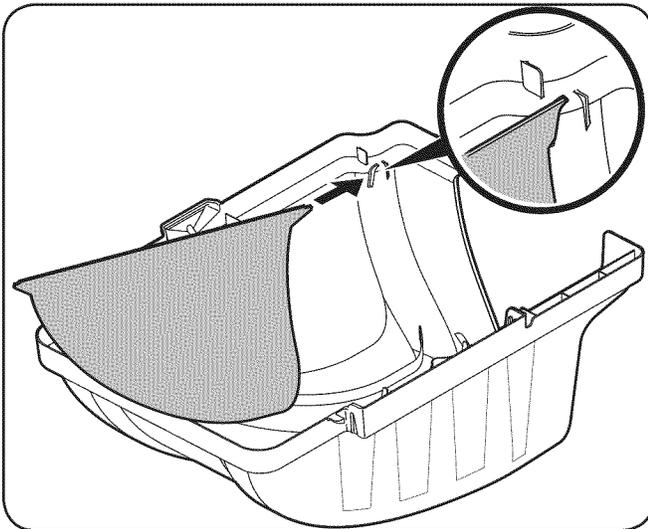
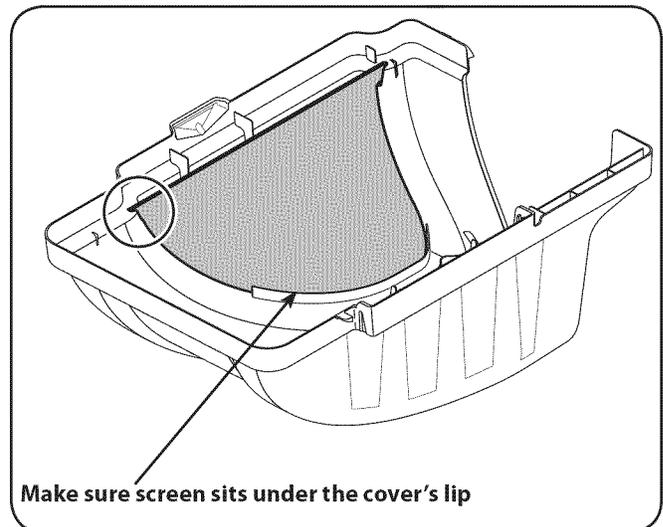

Figure 4-8
Figure 4-9
3. Install the bagger screen into the bagger cover by first inserting one end into the corresponding cutout mounting hole, as in Fig. 4-8. Make sure to feed the screen under the lip, as in Fig. 4-9.
4. Clip in the other side of the screen by flexing the screen and pushing it down into the other corresponding cutout hole. See Fig. 4-9.